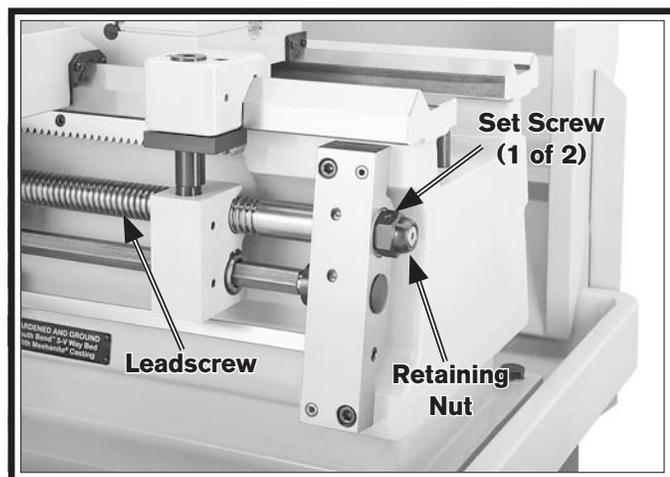

Figure 117. Leadscrew end play adjustment.
2. Loosen both retaining nut set screws (see **Figure 117**).